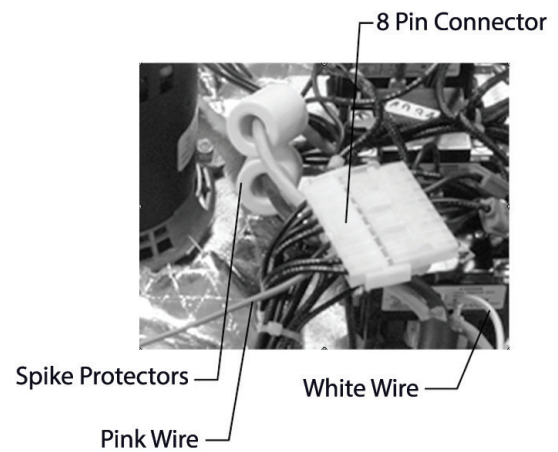

Figure 2
15. Insert uninsulated terminal of white wire (from new white and pink wire harness) on terminal #1 of relay labeled “evap relay” (figure 2).
16. Insert white spike protection devices on black and white incoming power lines as shown in figure 2.